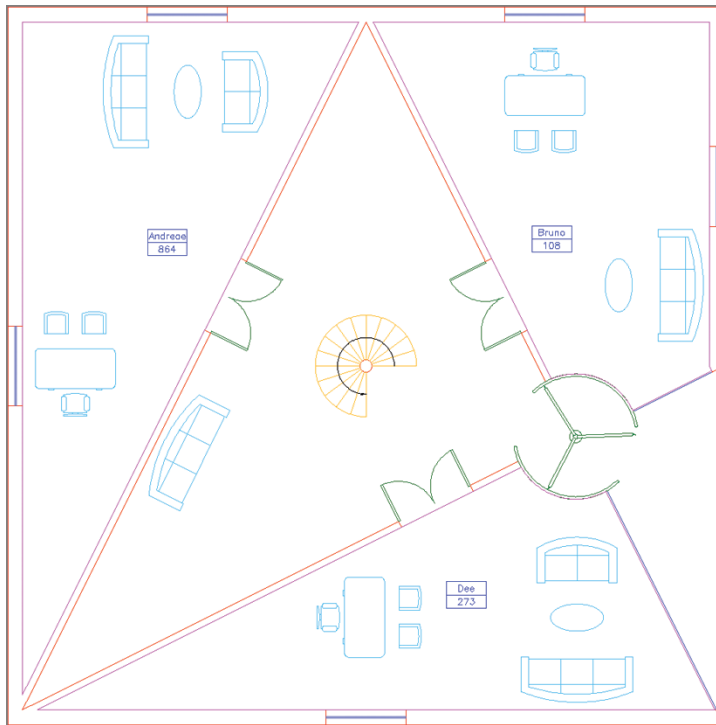

FIGURE 15.15 Three Employee Data blocks inserted and their attribute values entered
7. Press the spacebar to repeat the INSERT command and press Enter. Click a point in the center of the room on the bottom. Type **Dee** as the employee name, press Tab, and type **273** as the identification number in the Edit Attributes dialog box. Click OK. Figure 15.15 shows the result.